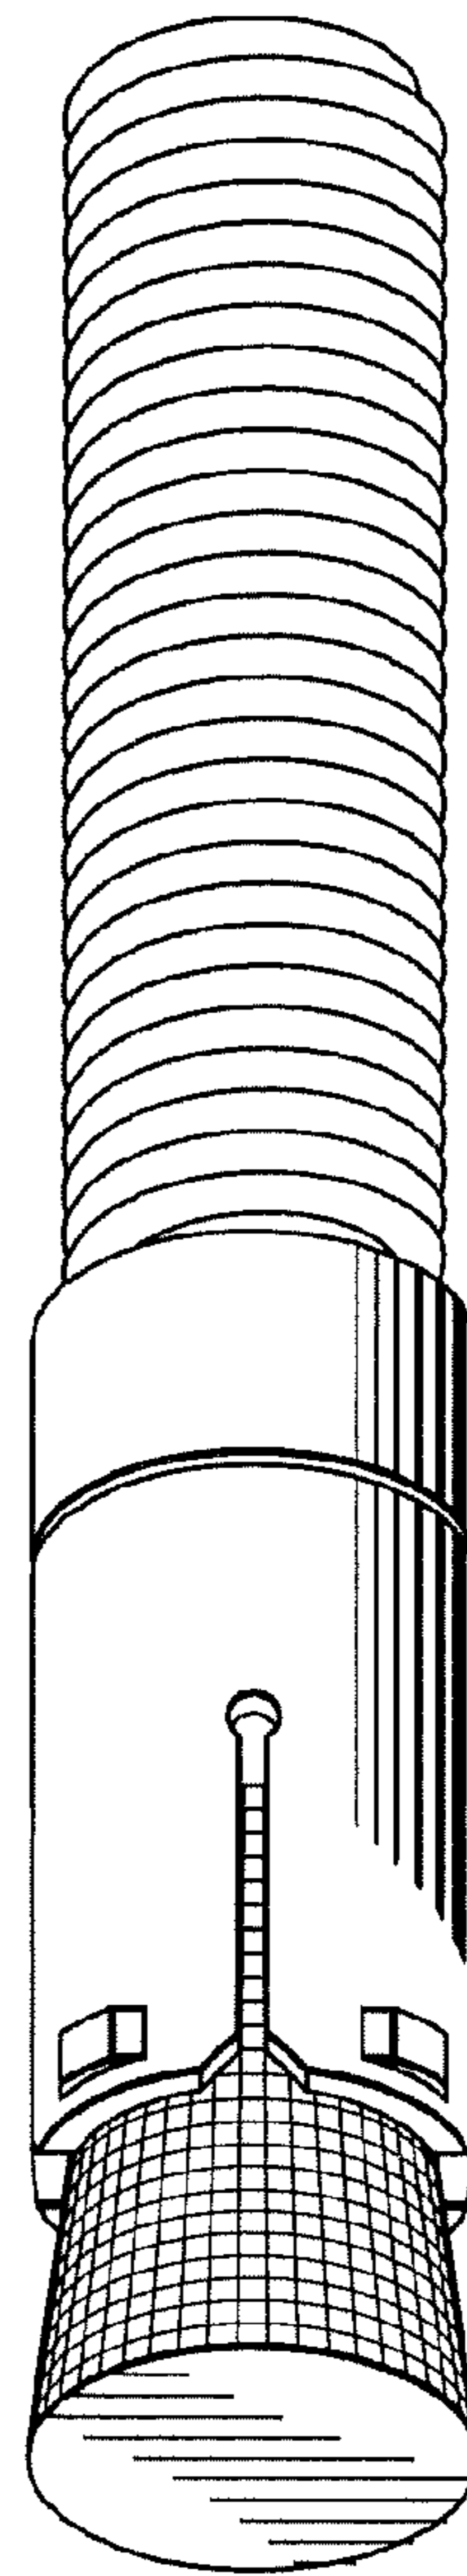

Fig. 10
- FIG. 10 is a bottom perspective view of the stud having a cross knurled wedge;